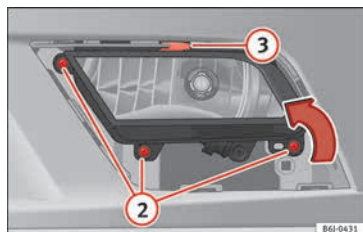

Fig. 105 Front fog light.
- Remove the 3 bolts » Fig. 105 ② to remove the fog light.
- Remove the metal clip situated on the upper part of the fog light by pulling towards the exterior of the vehicle » Fig. 105 ③.